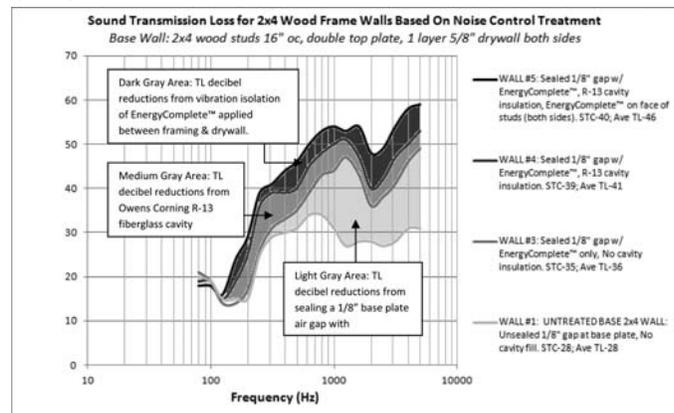

Figure 5: Sound Transmission Loss Curves for WALLS #1, #3, #4, and #5
Figure 5 below shows the sequential transmission loss (TL) curves as they relate to adding EnergyComplete™ and Owens Corning cavity insulation to interior WALLS #1, #3, #4, and #5. As is evident, the light gray section notes the significant (8 dB) benefits of sealing air gaps,